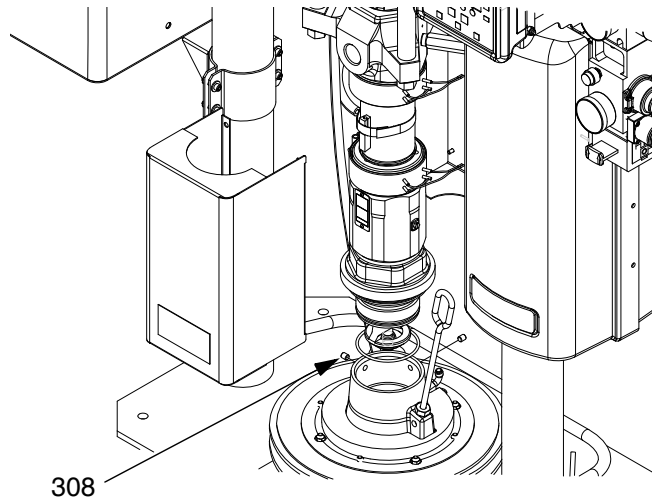

FIG. 42: 20, 30, 60 Liter Mounting
1. Place o-ring on pump intake. See FIG. 42.
3. Secure pump to platen with screws (308).